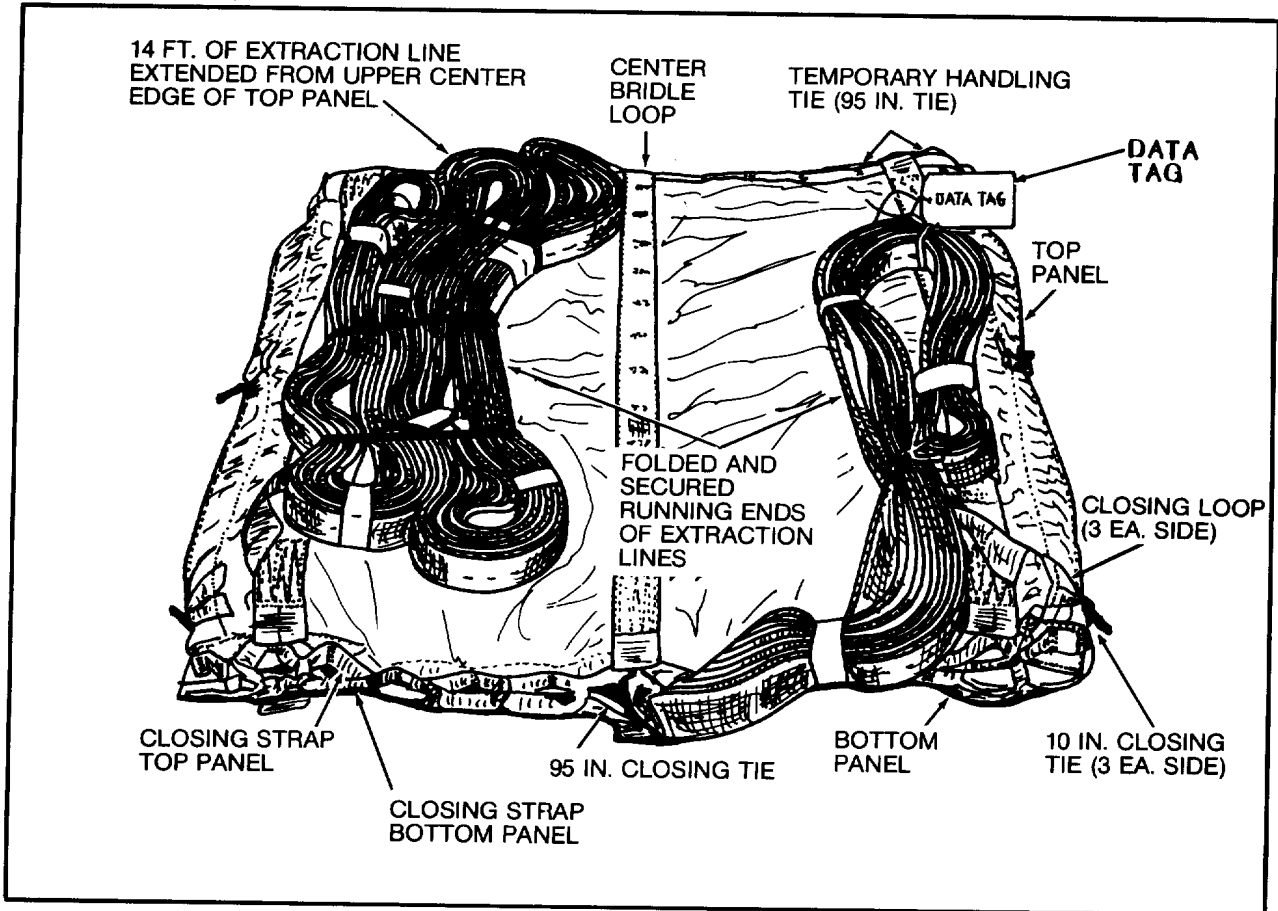

Figure 7. Extraction Line Bag Closed.
- b. Fold top panel over and onto bottom panel and line separator; align with upper edge of bottom panel. Ensure that approximately 14 feet of running end (parachute attaching end) extends from upper center (figure 7).